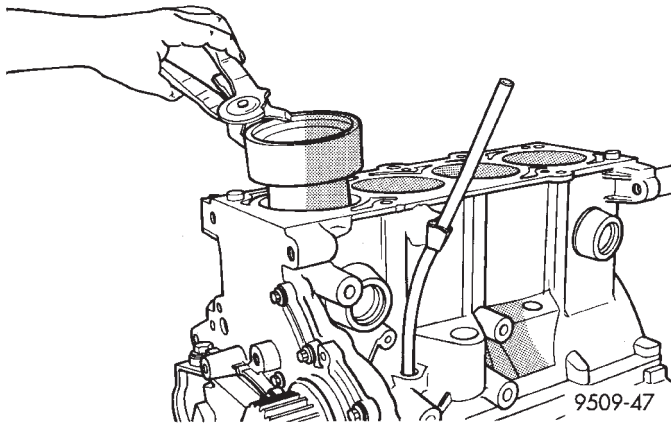

Fig. 85 Piston—Installation
(3) Immerse the piston head and rings in clean engine oil, slide the ring compressor, over the piston (Fig. 85). **Be sure position of rings does not change during this operation .**